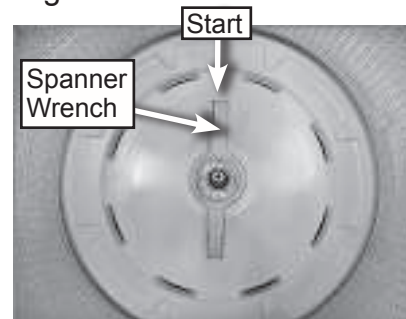

Figure 8
10. Place spanner wrench on spanner nut. Mark starting location of spanner wrench. See Figure 8.